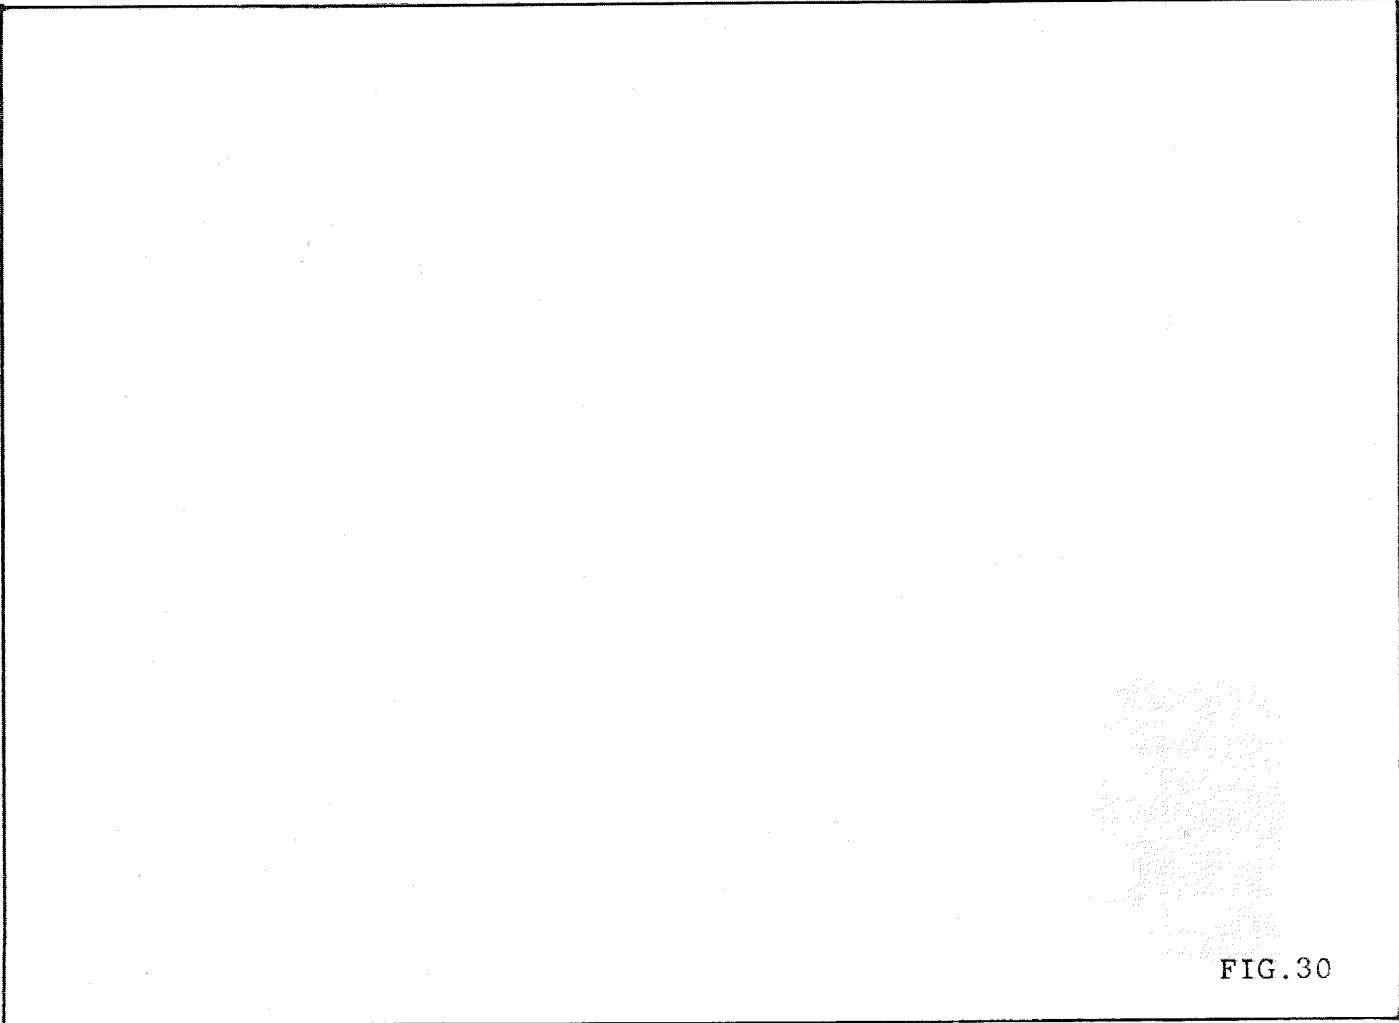

FIG. 30
- 1 Loosen locking handle "C" FIG.30.